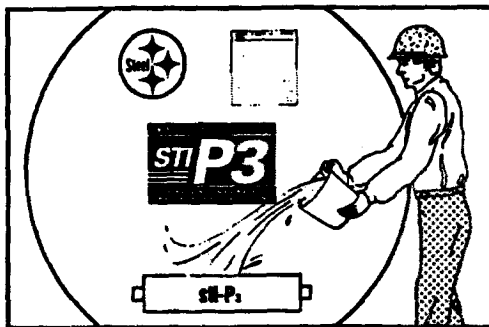

Figure 4
- (7) Continuous fillet weld tank shell lap joints interior and exterior surfaces.
- (8) Steel tank exterior protective coating options.
b. STI-P3 corrosion protection system cathodic protection is based on 5 percent of steel tank surface. See figure 4.
(9) Interior protective coating for steel tanks.
- o. Inspect anodes during backfill operations. See figure 4.